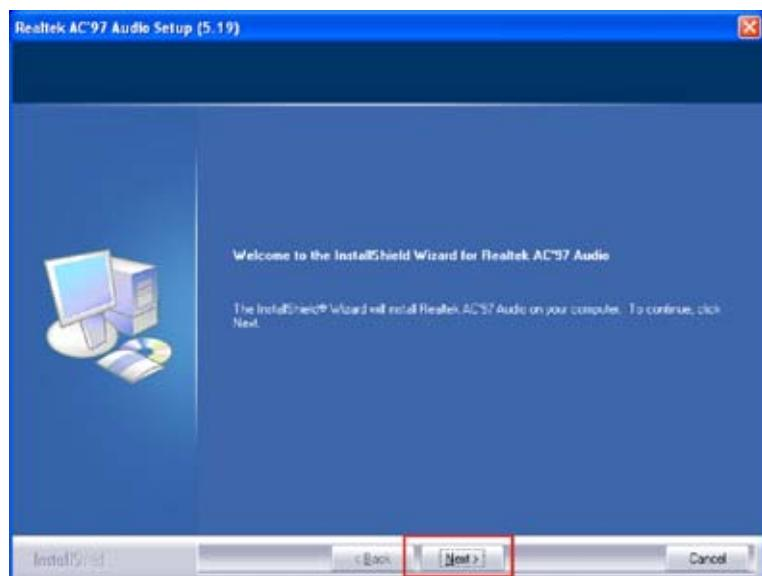

Figure 7-22: AC'97 Driver Installation Welcome Screen
Step 50: The AC'97 Driver Installation screen in **Figure 7-22** appears.